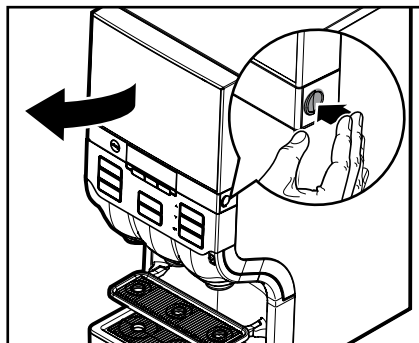

Fig. 21
1. Open the dispenser door. (Fig. 21)